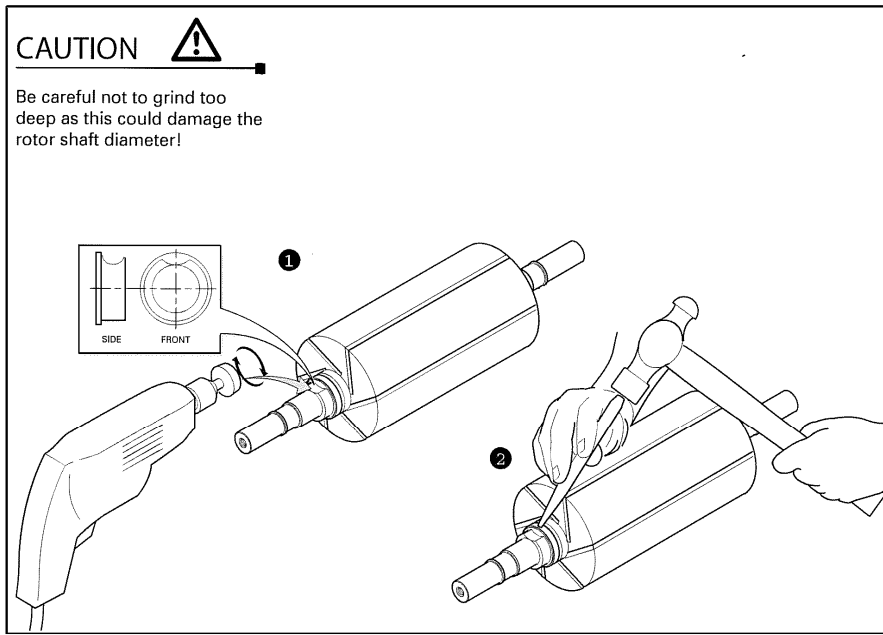

Figure 15. Extracting the bearing inner
2. Gently tap the bearing inner with a hammer and a small bar approx. 5 mm in diameter to loosen it from the diameter. A noise should be heard when the inner comes free from the rotor diameter. See fig 15, for full illustration of removal details.